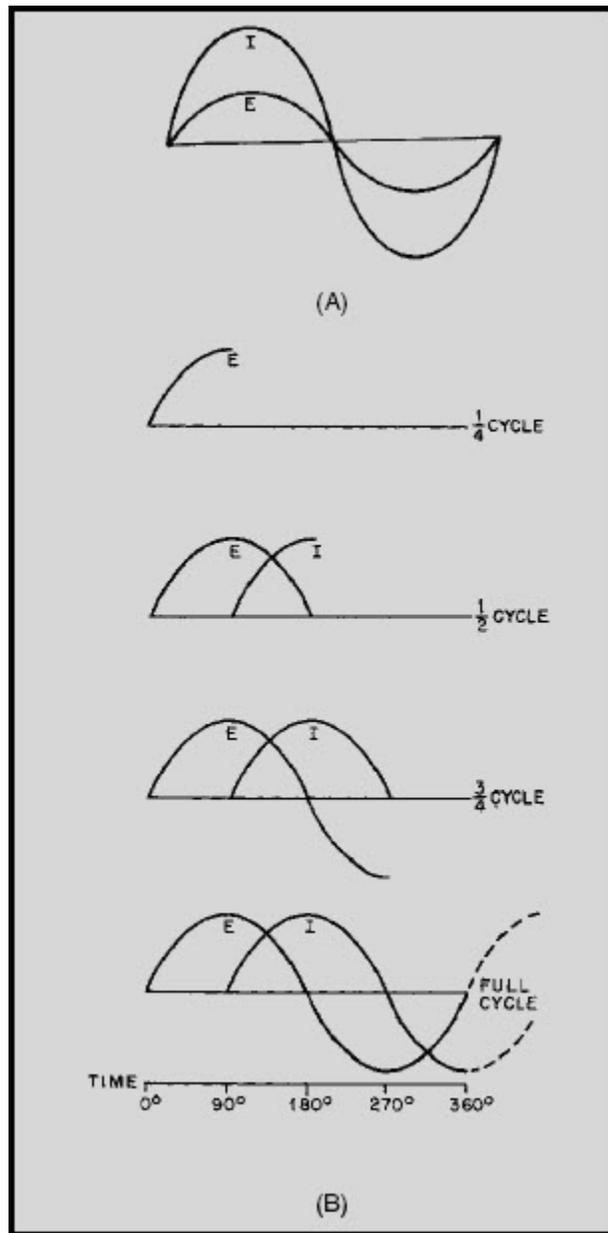

Figure 4-1 Voltage and current waveforms in an inductive circuit
A circuit having pure resistance (if such a thing were possible) would have the alternating current through it and the voltage across it rising and falling together. This is illustrated in figure 4-1(A), which shows the sine waves for current and voltage in a purely resistive circuit having an ac source. The current and voltage do not have the same amplitude, but they are in phase.
In the case of a circuit having inductance, the opposing force of the counter emf would be enough to keep the current from remaining in phase with the applied voltage. You learned that in a dc circuit containing pure inductance the current took time to rise to maximum even though the full applied voltage was immediately at maximum. Figure 4-1(B) shows the wave forms for a purely inductive ac circuit in steps of quarter-cycles.